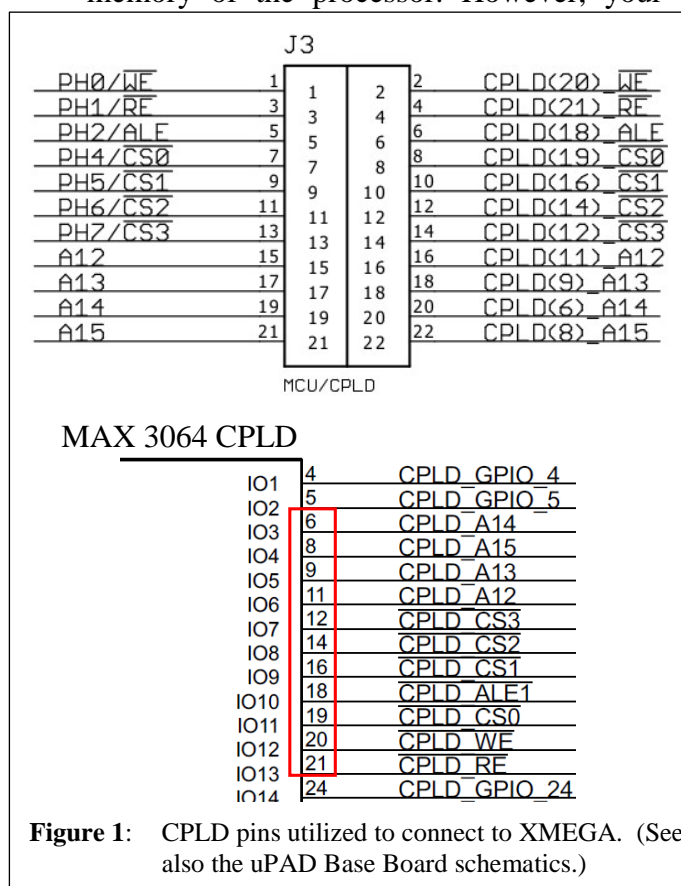

Figure 1: CPLD pins utilized to connect to XMEGA. (See also the uPAD Base Board schematics.)
- Use jumpers on the J3 header below and to the left of the J1 header. The jumpers are used to connect required signals (/WE, /RE, etc) to the CPLD. Figure 1 is an excerpt from the uPAD Proto Base schematic document (available on our website). The numbers boxed in red correspond to the PIN_# on the CPLD. These are the pins that you need to select in the Quartus pin planner so that the desired jumpered signals are connected to the CPLD. Once these pins are verified, program the CPLD. If you start